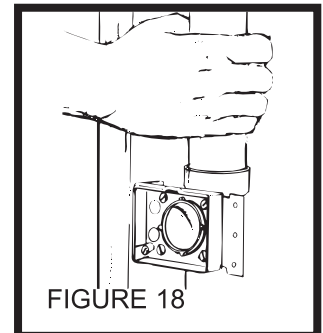

FIGURE 18
12. Refer to Figure 18. Insert tubing into fitting with a twisting motion to evenly spread cement. Be sure tubing is firmly seated in fitting.